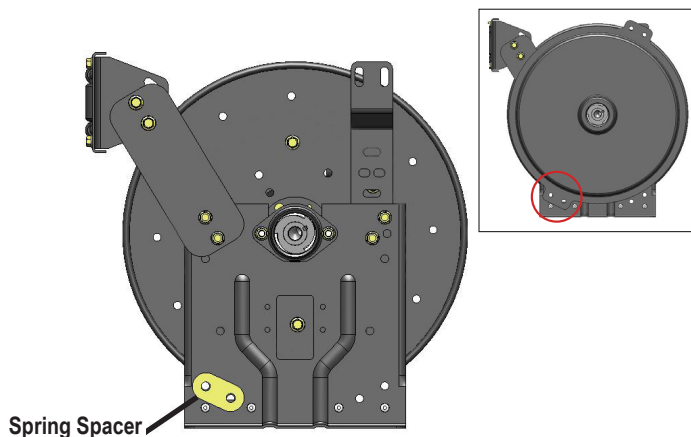

FIGURE 3: View showing spring reel with spring and hardware removed, and spring spacer (normally blocked by spring - see inset).
3. Loosen all bolts holding the spring to the reel; depending on the model there may be up to 4 bolts. Note: when the lower bolts are removed, the spacer will fall from behind the spring. Figure 3 depicts an "N-Series" reel; if you have a standard reel it may appear different.